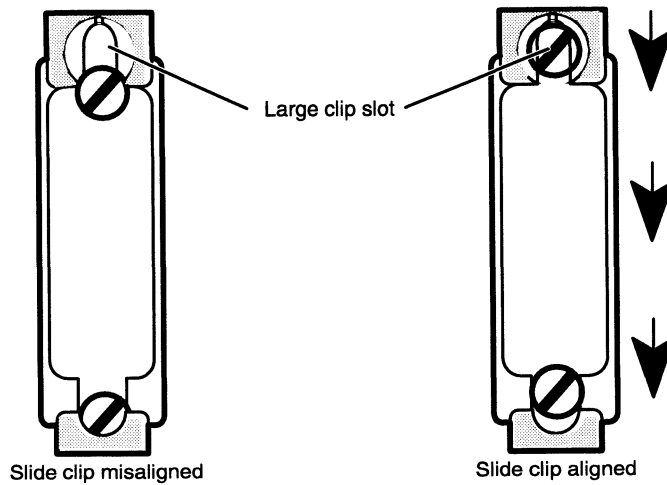

Figure 4-37 LAN Connector Slide Clip Before Connection
2. Align the larger mount slot on the clip with the screw behind it as shown in Figure 4-37. This position allows the cable connector to fit completely over the VLCi connector before you secure the connection.